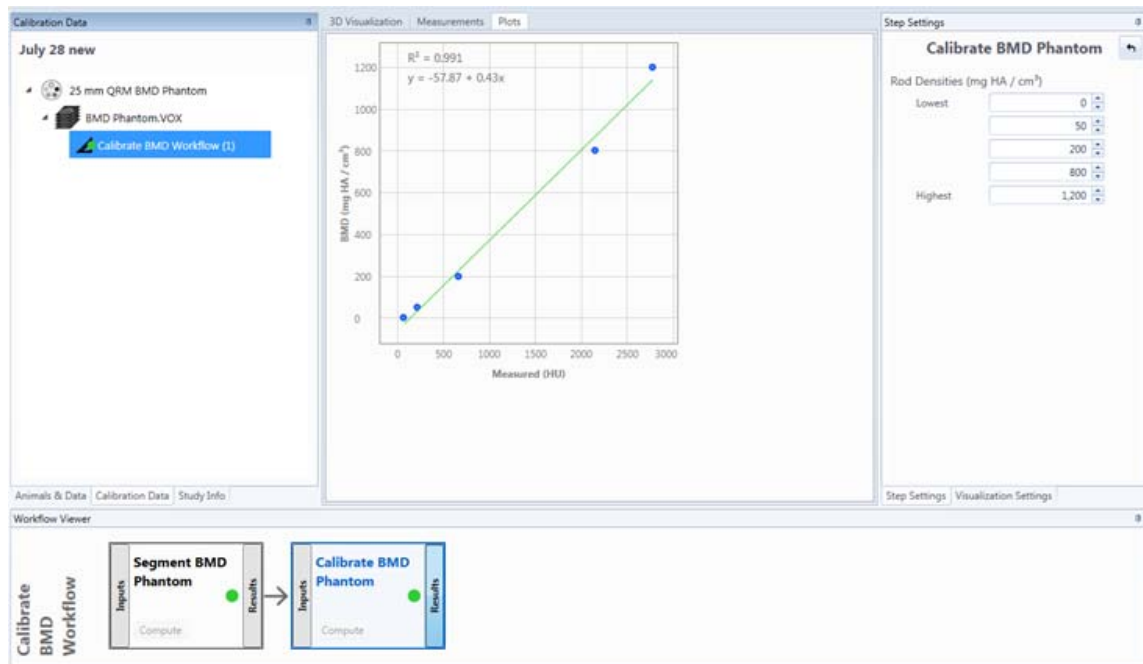

Figure 54. Calibrate BMD Phantom Workflow Results
- 3 Click the **Compute** button in the Calibrate BMD Phantom step box on the Workflow Viewer Tab. The results of the Calibrate BMD Workflow display on the Plots Tab. The plot displays the linear regression of the specified densities (in mg HA / cm³) with the measured HU values and displays a calibration curve. See Figure 54.